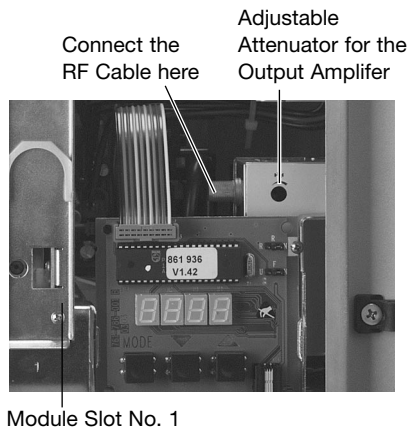

Fig. 5: Output Amplifier
- The output of the module on the extreme right (slot no. 1) is connected to the Base Unit's output amplifier, see Fig. 5.
You can adjust the HF output signal using the adjustable attenuator on the output amplifier, see Fig. 5. The adjustable attenuator regulates the level of the summation of the signals from all the modules.